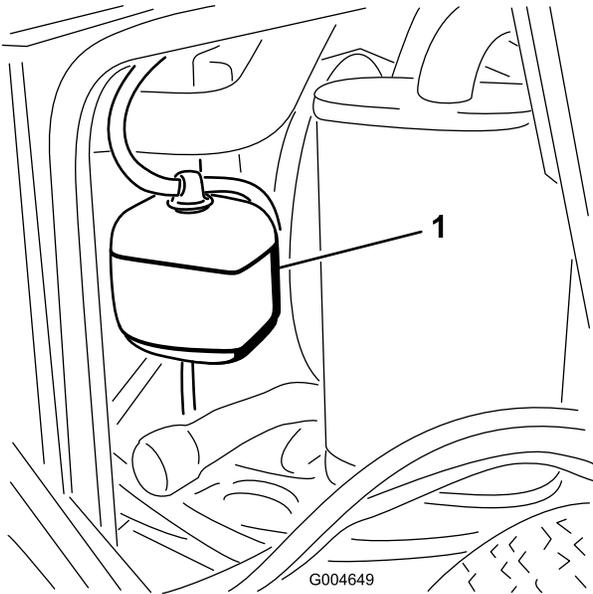

Figure 49
1. Check the level of the coolant in the expansion tank (Figure 49). The coolant level should be between the marks on the side of the tank.